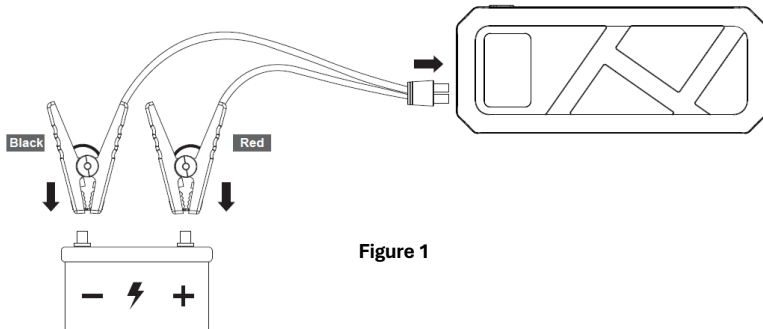

Figure 1
1. Connect battery clamp cable to plug ⑤ on the NS800R.
2. Attach the NS800R battery clamps to the vehicle battery terminals. See Figure 1 on page 9. (If the battery voltage is above 7V, it can charge the NS800R to 100%. If the voltage is lower, use another battery source.)
Connecting to the Battery if not already connected from Option A. See Figure 1 below:
3. Attach the battery clamps to the Positive (RED +) and Negative (Black -) terminals on the low battery. See Figure 1.
4. Press the Power Button ⑦ five (5) times to force initiate Start Mode.
6. Press the Power Button ⑦ for 1 second to begin the countdown timer. Wait for the steady tone to start the vehicle.